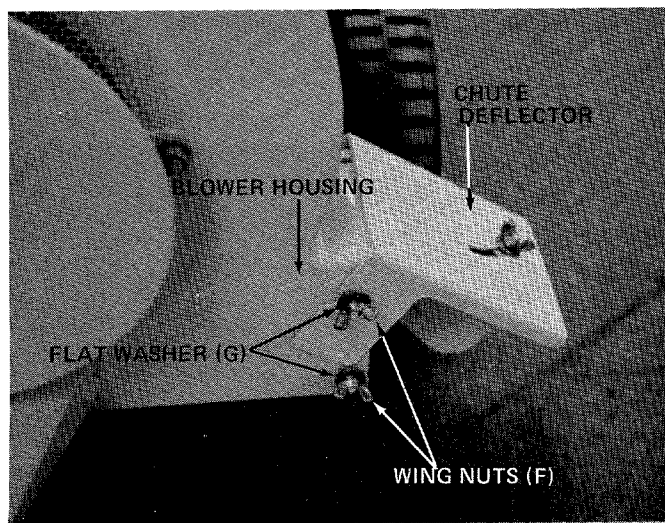

FIGURE 7
- Place the pre-assembled chute deflector on the blower housing. See figure 7. Secure in place with four flat washers (G) and wing nuts (F).